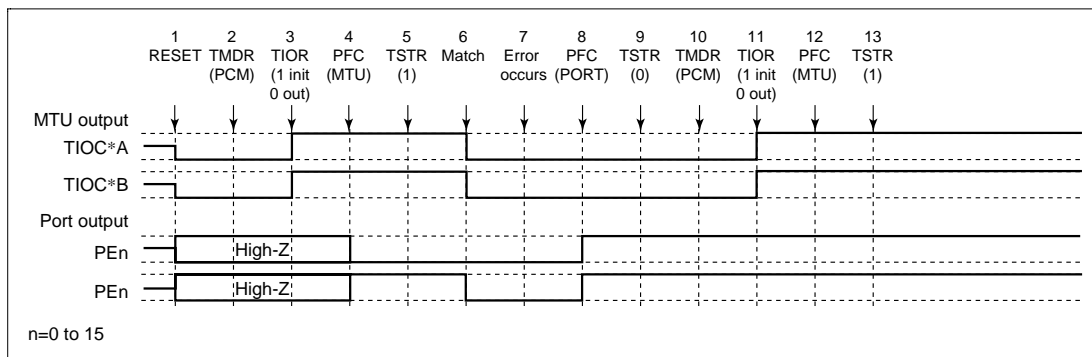

Figure 12.115 Error Occurrence in Phase Counting Mode, Recovery in Phase Counting Mode
(20) Operation when Error Occurs during Phase Counting Mode Operation, and Operation is Restarted in Phase Counting Mode: Figure 12.115 shows an explanatory diagram of the case where an error occurs in phase counting mode and operation is restarted in phase counting mode after re-setting.